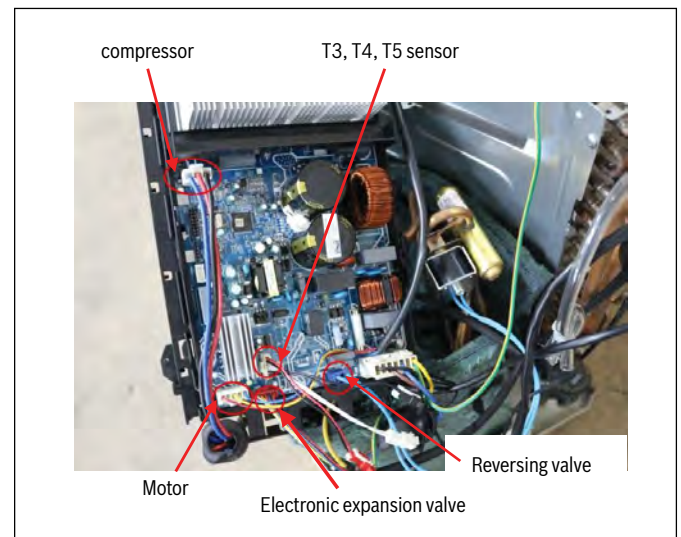

Figure 86
5. Remove the ground wires (Fig. 86, pos. 5).
6. Remove the wires 1,2,3 (Fig. 86, pos. 6).